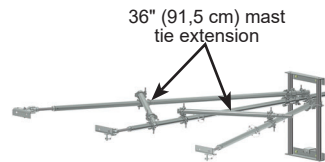

fig. 6.30
- 1- Loosen the swivel dual clamps and remove the mast tie extensions installed as braces (fig. 6.30).